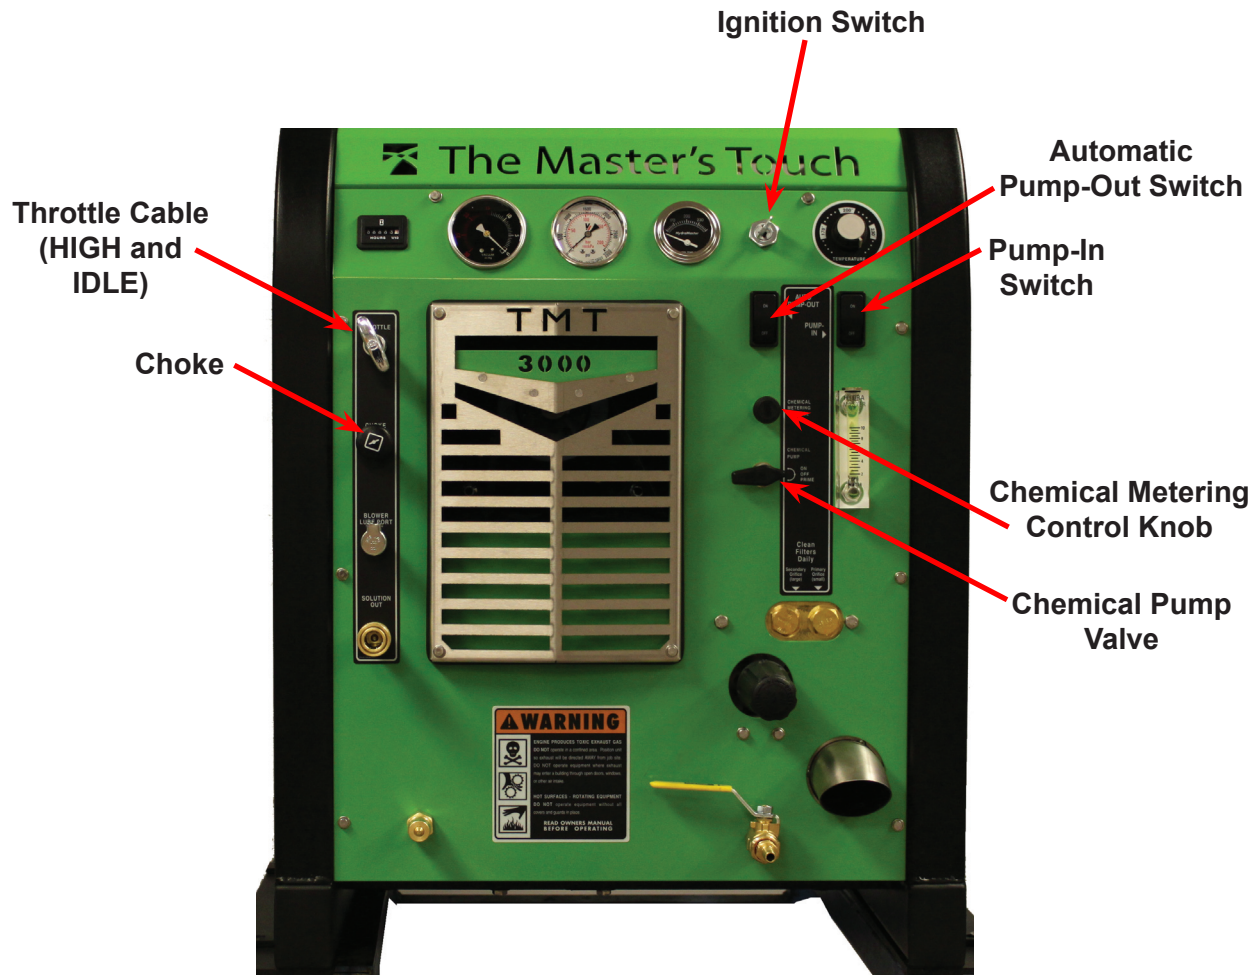

Figure 4-1. TMT 3000 Dash Assembly - View 1 of 2
This section describes how to operate the TMT 3000, starting with a description of the dash assembly (see Figure 4-1).
Note that there is a "CHEMICAL PUMP" valve located on the dash assembly (see Figure 4-1). This is not to be confused with the chemical pump shutoff valve shown in Figure 4-3.
2. Turn the “CHEMICAL PUMP” valve, located on the dash assembly, to the “PRIME” position to purge any air from the system (see Figure 4-1 on page 4-1).
6. While spraying solution from the cleaning tool, adjust the chemical flow by turning the “CHEMICAL METERING CONTROL” knob (see Figure 4-1 on page 4-1).